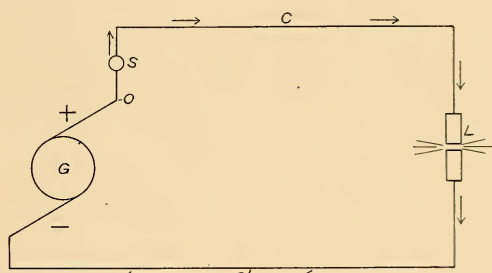

FIG. 3. A SIMPLE ELECTRIC CIRCUIT.
plicated, as a single circuit consisting of an electric source or generator (G), Fig. 3, an arc lamp (L), conductors (C C'), and a switch (S).
receptive devices so as to obtain from them some desired effect, such as light, in the case of an incandescent or arc lamp; magnetism, in the case of an electro-magnet; heat, in the case of an electric heater; mechanical motion, in the case of a motor or an electric bell; etc. When, therefore, one familiarizes himself with the elements of the simple electric circuit that is represented in Fig. 3, he has covered an important part of electricity at actual work. Already, therefore, the bewildering complexity of electricity as it appeared to the mind of the reader, as in imagination he took a stroll with me along "The Great White Way," or elsewhere, should be decreasing. In order that any of the effects then witnessed shall have been produced it is only necessary to provide an electric source for generating electricity, and starting it out on its way through a conducting path or circuit, thence through an electro-receptive device and back again to the source. While it is true that in many cases the circuits are necessarily of great complexity, owing to the great number of receptive devices connected with the source, or owing to other causes, yet no matter how complex, such a circuit can readily be divided into a number of separate circuits, each of which is correctly represented by the simple electric circuit of the preceding figure, and the same thing is true of the far more highly complex circuits that lead into and out of a central telephonic exchange.